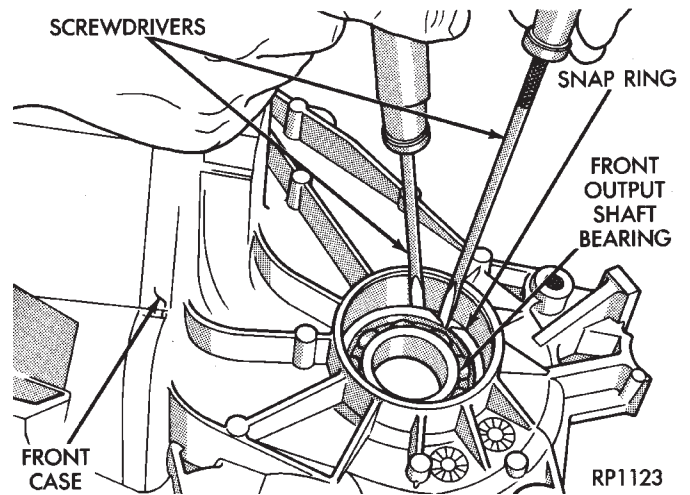

Fig. 41 Front Output Shaft Bearing Retaining Ring Removal
- (2) Remove the front output shaft bearing retaining ring with screwdriver (Fig. 41).